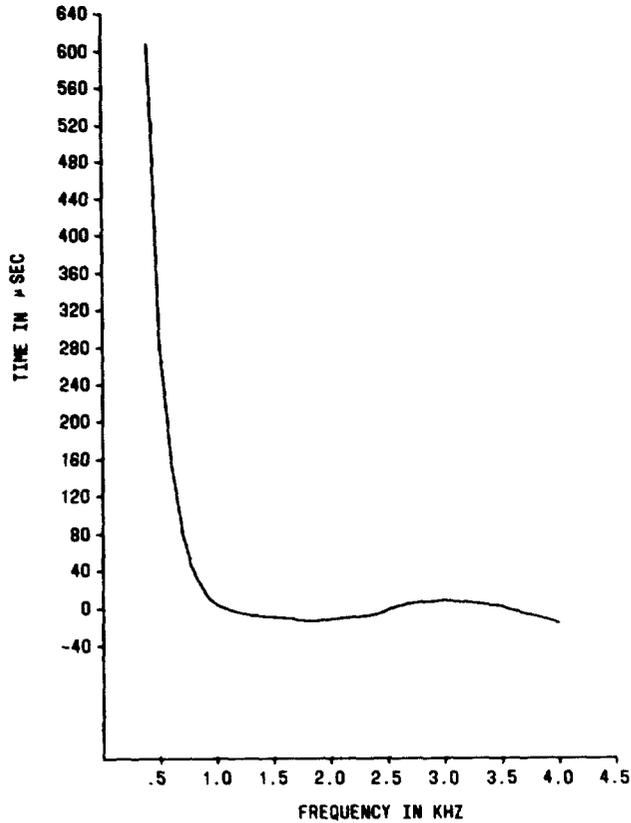

Fig. 5—Envelope Delay Distortion
**4.03** Figure 5 gives the envelope delay distortion for the J99343PL (L1 and L2) repeaters.